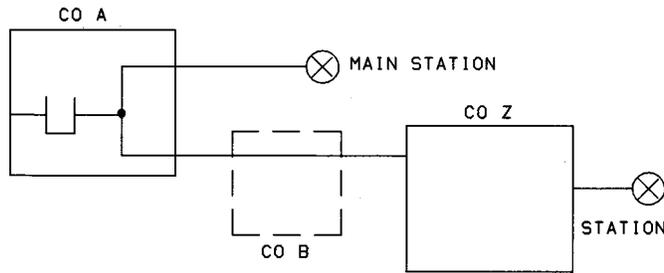

Fig. 3-5—Typical OFF Premises Extension (OPX) Line
**3.12** An off-premises extension (OPX) line, (Fig. 3-5) connects an extension telephone station to a main station line. The extension telephone station is located remotely from the main station. The extension line can be bridged at the main station location but more often the main station line and the extension line are bridged at the CO serving the main station. Bridge lifters are often required to reduce losses.